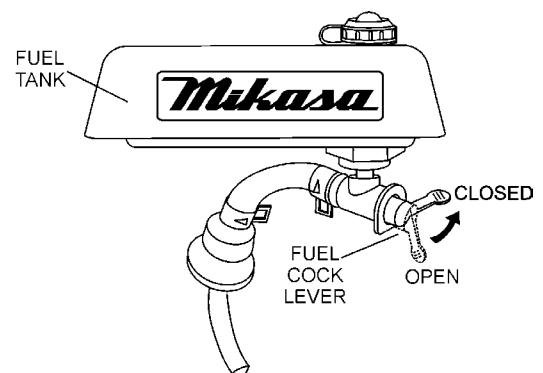

Figure 18. Fuel ShutOff Valve (Closed)
14. Close the fuel shut-off valve (Figure 18) by moving the fuel cock lever to the **CLOSED** position.